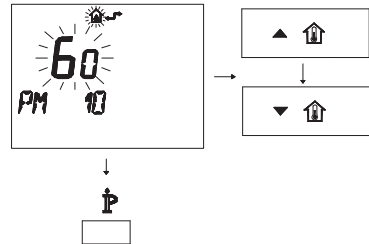

Fig. 7.39
- To modify the programmed SET, act on buttons **▲** and **HOME** or **▼** and **HOME** and wait for the number programmed to flash (Fig. 7.39).